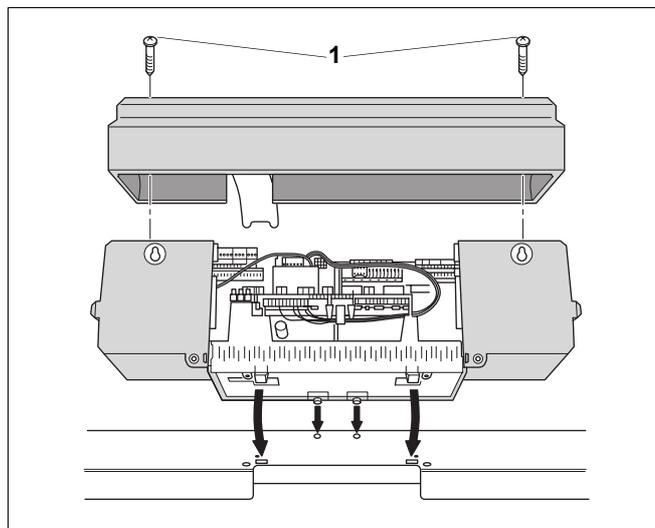
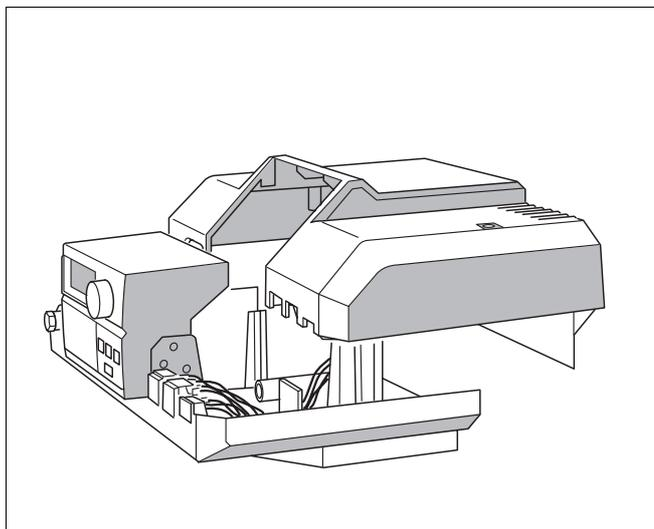

Fig. 13 Install the Logamatic 4000 control unit
Fig. 14 Install the Logamatic 2000 control unit
- Unscrew both screws (Fig. 13, **item 1**) from the top of the terminal cover and remove the cover.
- Slightly tilt the control unit forward and set it down, so that the push-in hooks at the front lead into the oval holes. Push the control unit forward and tip down at the rear, until both flexible hooks engage on the r.h. and l.h. side (arrows Fig. 13).
- Locate the terminal cover and secure with two self-tapping screws (Fig. 13 & Fig. 14).